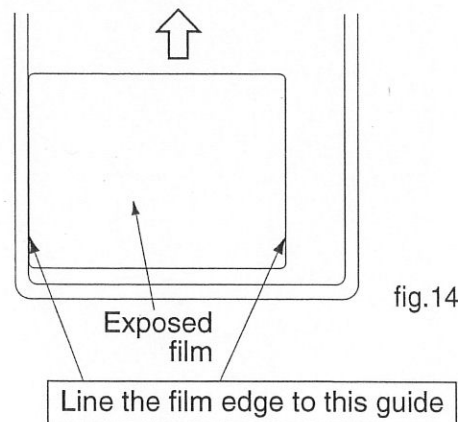

fig.14
④ Insert the exposed film one sheet at a time, always lining up the film edge to either right or left guide located on the feed tray. (fig.14)